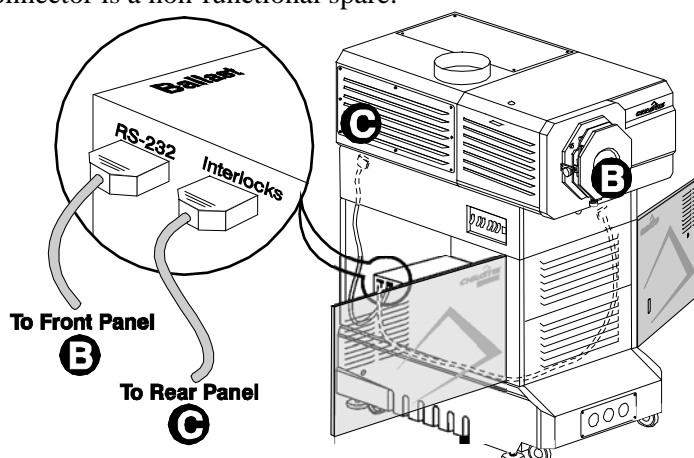

Figure 2.6. Connect Ballast RS-232 and Interlocks to Projection Head
- 5-3) **BALLAST RS-232 CABLE:** Connect the ballast’s RS-232 cable 34-002075 to Panel B (9-pin), routing through the small rectangular access hole in the *front* underside of the projection head (Figure 2.6). A second connector on Panel B is pre-connected to Panel C. Any third connector is a non-functional spare.
- 5-4) **BALLAST INTERLOCK CABLE:** Connect the ballast’s interlock cable 34-002007 to Panel C (9-pin), routing through the small rectangular access hole in the *rear* underside of the projection head (Figure 2.6). A second connector on Panel C is pre-connected to Panel B, and the remaining third connector is a non-functional spare.